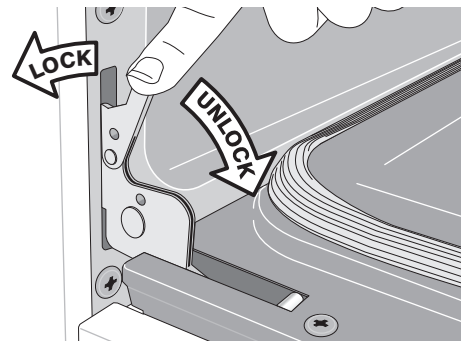

Figure 61: Door hinge locks
2. Pull the door hinge locks on both left and right door hinges down from the oven frame completely toward the oven door (See Figure 61). A tool such as a small flat-blade screwdriver may be required.
4. Push the door hinge locks up toward and into the oven frame on both left and right oven door hinges to the locked position (Figure 61).